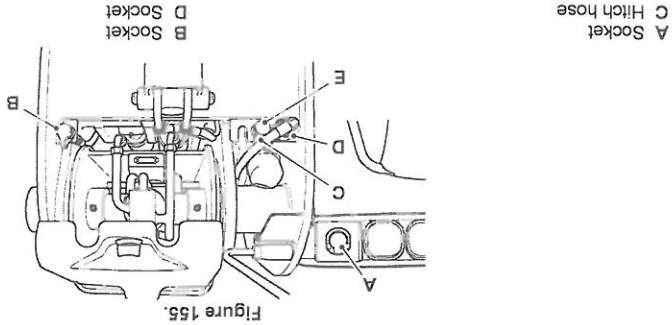

Figure 155.
1. Connect the trailer lights into socket. Refer to Figure 155.
- 5.1. Disconnect the hydraulic hitch hose from the socket and reconnect to stowage socket. Refer to Figure 155.